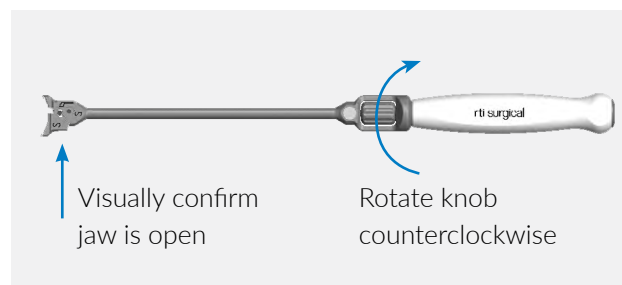

Figure 7
- Rotate inserter knob counterclockwise until positive stop is felt, visually confirm distal end is fully open (Figure 7).